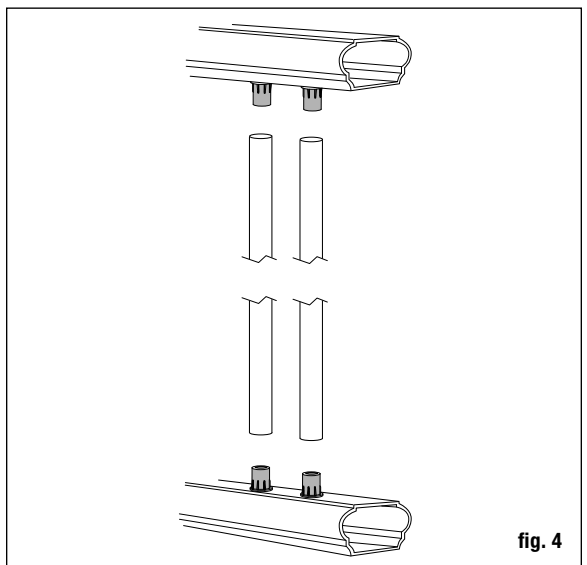

fig. 4
**Step 6** Attach baluster to the lower rail by sliding onto connection (fig. 4).